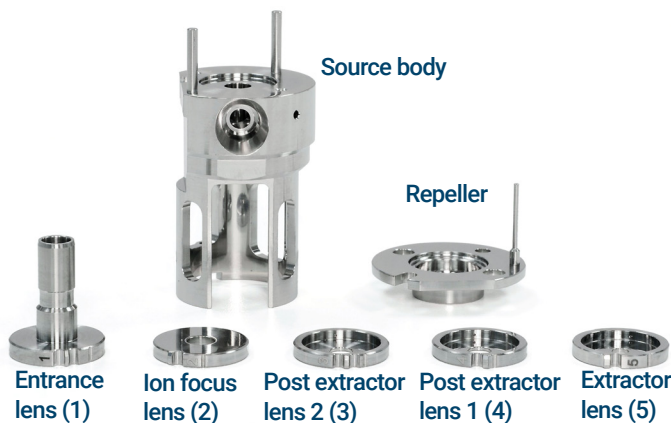

Figure 49 EI HES parts to be cleaned
- 2 Collect the following parts to be cleaned: (See **Figure 49** on page 158.)
- Extractor lens (5)
- Post extractor lens 1 (4)
- Post extractor lens 2 (3)
- Ion focus lens (2)
- Entrance lens (1)